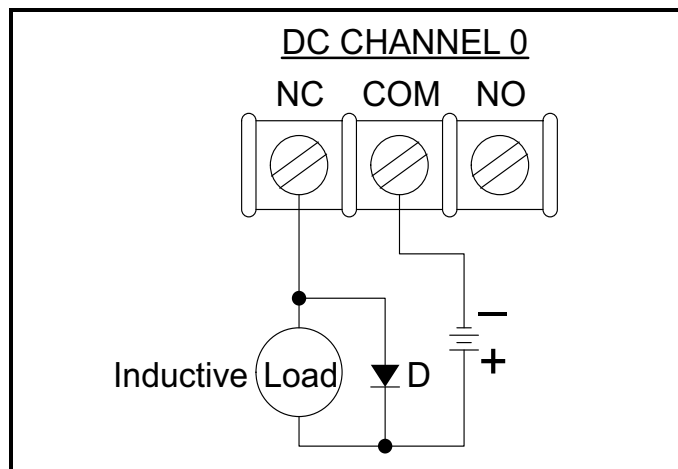

Figure 31: DC Voltage Connection
DC Voltage -Inductive Load. Place a diode (D) across the load at the source of the noise but never across the terminals of the contact output card. See Figure 31.